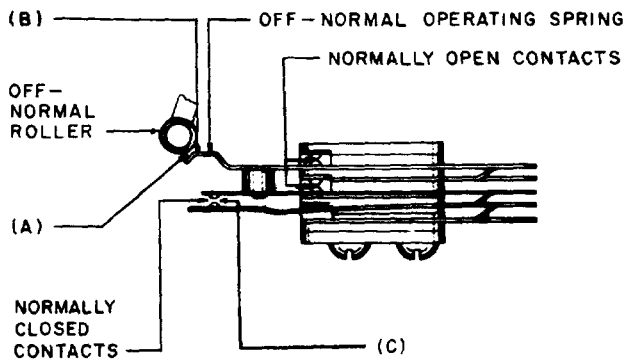

Fig. 15—Off-Normal Operating Spring Clearance
2.30 Off-Normal Operating Spring Clearance: Fig. 15(A)
Fig. 15(B)—The off-normal operating spring shall not prevent the wiper assembly from returning to normal when the wiper springs are released from the first step.
(c) **204C, E, and F Selectors:** Fig. 15(C)—With the No. 6 spring resting against the No. 5 spring, the separation between the pair of contacts that are opened when the wiper assembly is rotated to the first step shall be